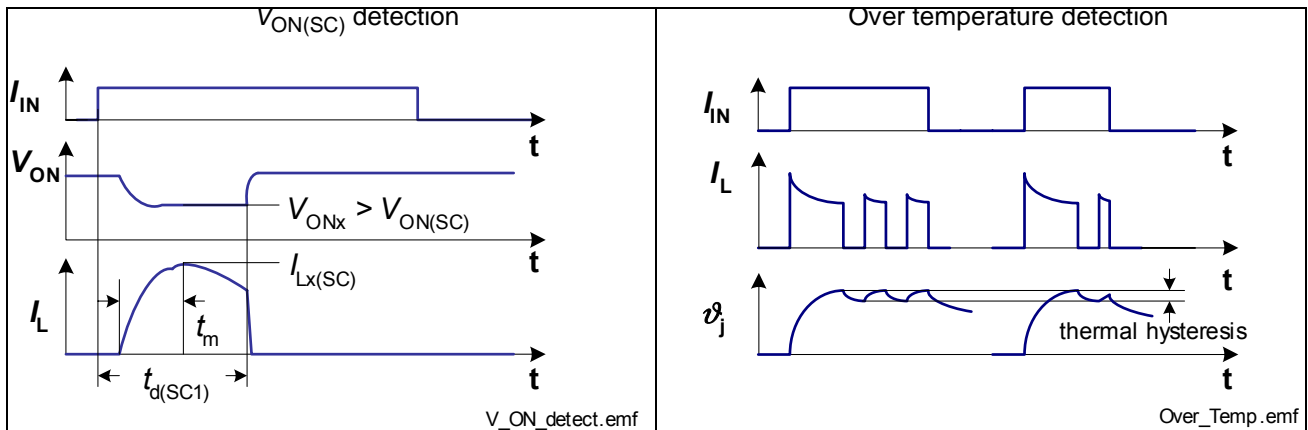

Figure 12 Overload Behavior
In the event that either the short circuit detection via  $V_{ON(SC)}$  is not activated or that the on chip temperature sensor senses over-temperature before the blanking time  $t_{d(SC1)}$  passed by, the device switches off resulting from over-temperature detection. After cooling down with thermal hysteresis, the devices switches on again. Please refer to **Figure 12** for details.
2) Short circuit current limit for max. duration of  $t_{d(\text{SC}1)}$ , prior to shutdown, see also Figure 12.